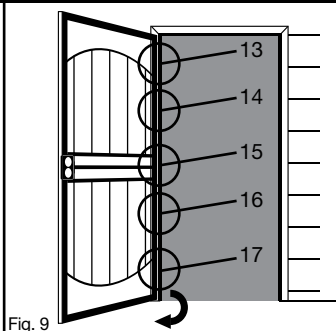

Fig. 9
Fig. 9 - Open door. On the inside of hinge side Z-bar jamb (A) insert mounting screws into holes (13-17) and tighten. Lastly, re-install glass and screen panels (F & H) and secure with glass and screen clips in proper position. Close and open door to ensure proper fit, adjust if necessary.